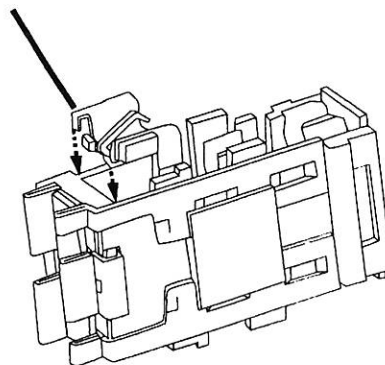

Figure 10
- 4a. For 120 VAC operation, the Corcom requires a single 1Amp fuse mounted on the left side with the bridge installed (see Figure 10).